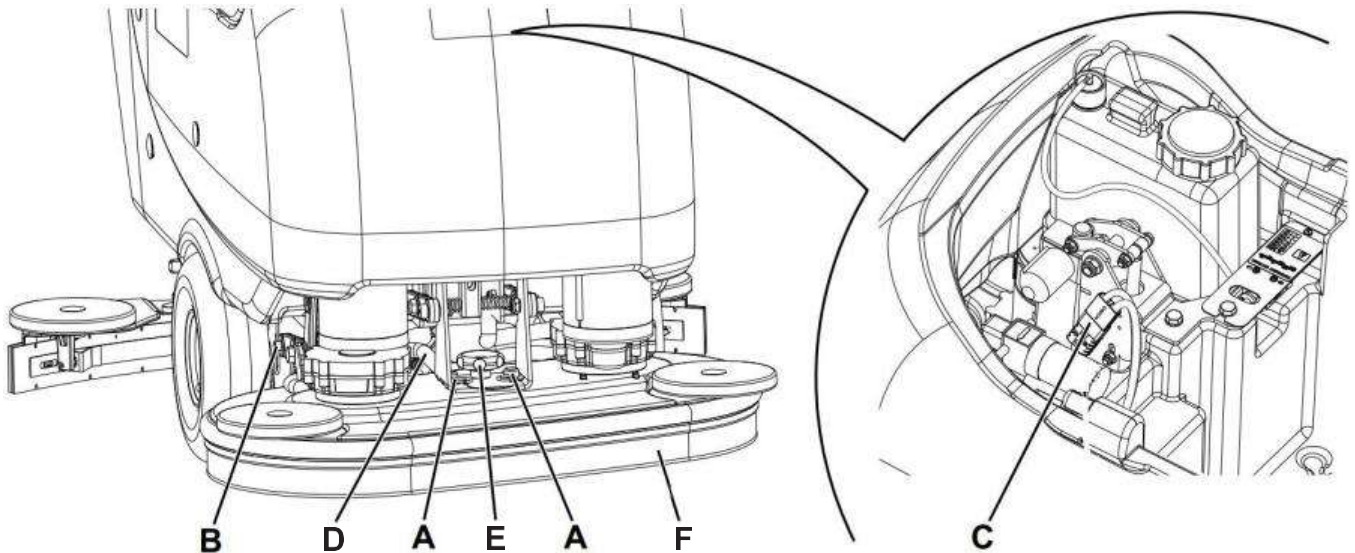

Figure 13
3. Turn on the machine by pressing the switch (66).
4. Lower the brush/pad-holder deck by pressing the switch (61).
5. Turn off the machine by pressing and holding the switch (66) for nearly a second.
6. Remove the safety pins (A, Fig. 13) and [for brush/pad-holder deck (18) only] the mounting pin (B).
7. Open the cover (22) and check that the recovery tank (21) is empty, otherwise empty it with the drain hose (16). Close the cover (22).
8. Grasp the handle (41) and carefully lift the tank (40) to reach the deck electrical connection.
9. Disconnect the red connector (C).
10. Disconnect the solution hose union (D).
11. Unscrew the mounting handwheel (E), then remove the brush/pad-holder deck (F).
- When the brush/pad-holder deck (18) is installed, fasten the lever with the pin (B).